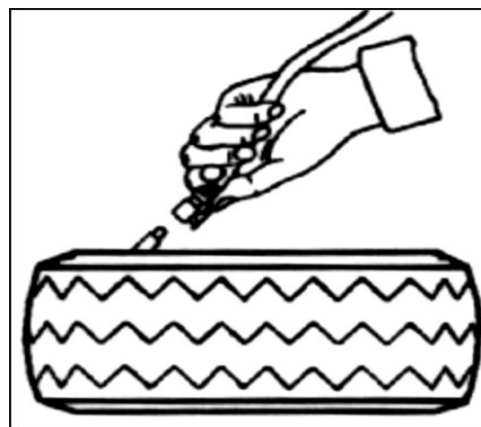

Fig 26
2. Connect the inflation hose with the tire air core. See FIG26.